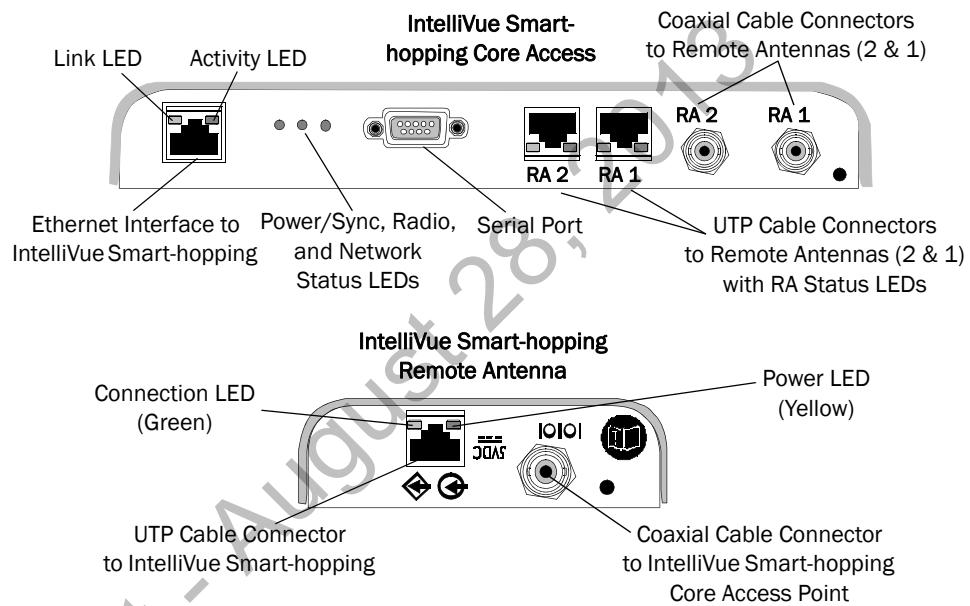

Figure 2-1: 1.4 GHz IntelliVue Smart-hopping Core AP and Remote Antenna Controls and Connectors
- a) Connect the first Remote Antenna to the Core AP using the UTP and Coaxial cable connectors labeled **RA 1** in Figure 2-1.
- b) Connect the second Remote Antenna to the Core AP using the UTP and Coaxial cable connectors labeled **RA 2** in Figure 2-1.